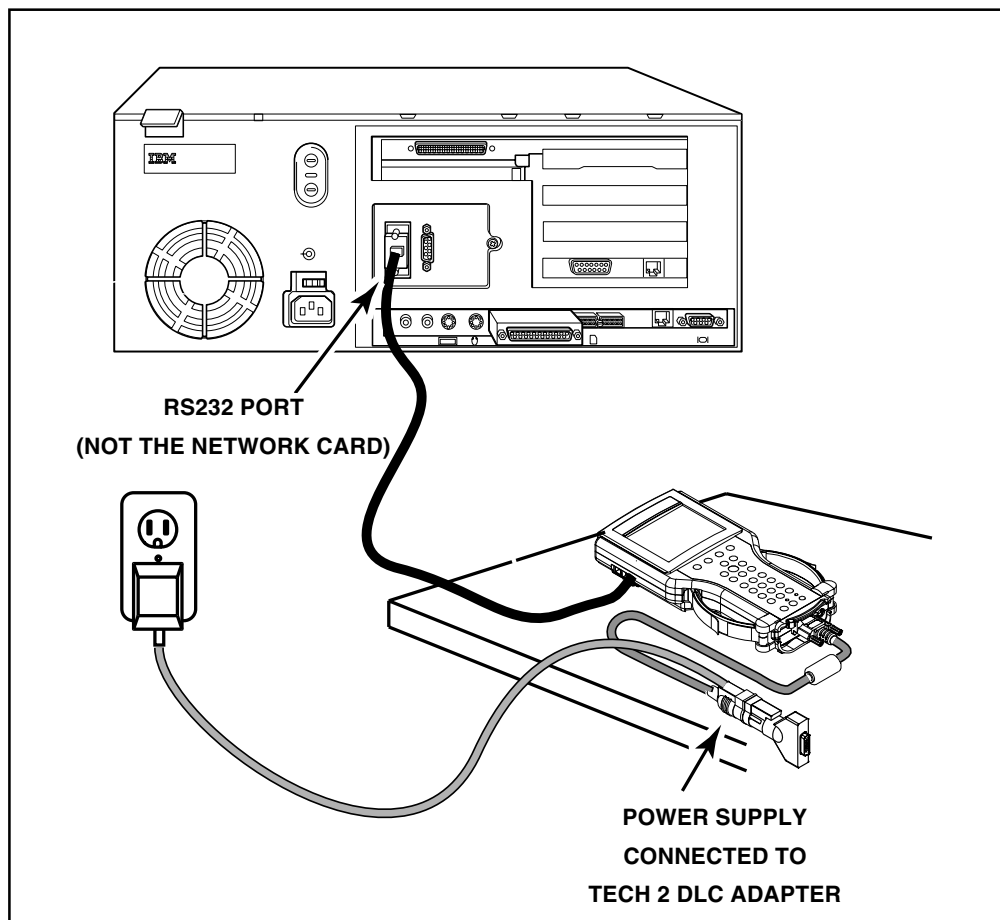

Figure I-5, Tech 2 to Computer Connection
- 2.1 Connect the Tech 2 to the terminal, as shown in Figure I-5.